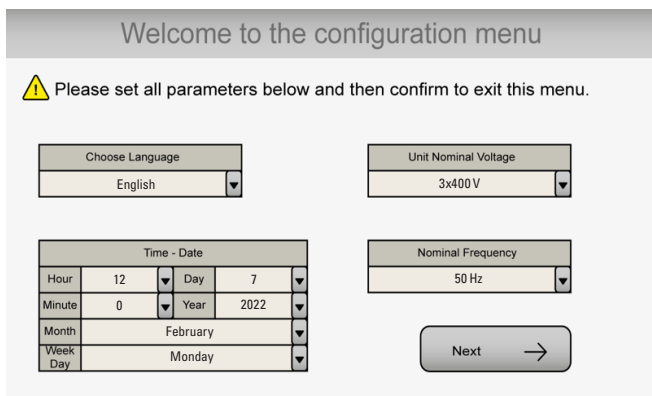

Fig. 40. First configuration screen.
⚠ If Spanish has been chosen on the language screen, this will be the default language that will appear on the rest of the screens. For the rest of the languages, the screen will appear in English by default until it is changed in the First configuration screen (Fig. 40).
- If everything is correct, the touch screen will display a graphic like Fig. 40, bridging the gap among the possible configurations different from III/III and/or separate bypass feature. In the EL064*01 document, other configurations are shown as mere examples too.